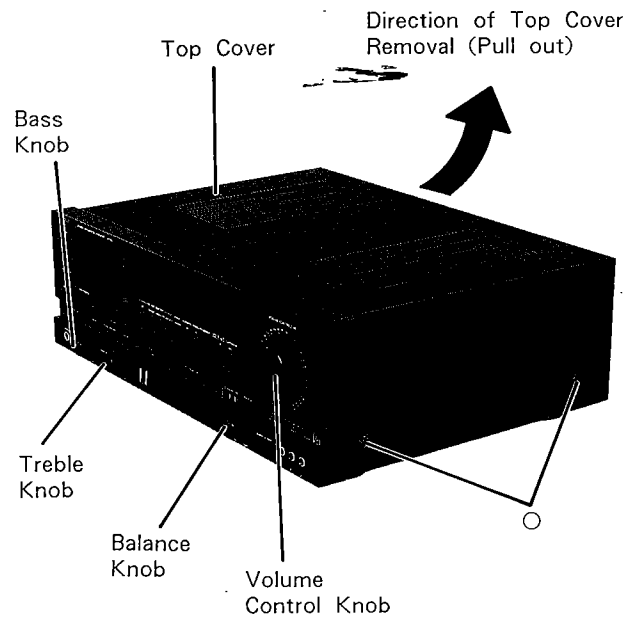

Figure 3
- (1) Remove six screws marked "○" as shown in Figures 3 and 4.
- (2) Pull out the top cover in the direction of the arrow as shown in Figure 3.
- (1) Remove the volume control knob as shown in Figure 3.
- (1) After removal of The Front Panel, remove three control knobs (bass, treble, balance), remove two hooks (A), and remove six screws marked "※" as shown in Figures 3, 4 and 6.
- (2) Disconnect all wires from the Front Escutcheon.
- (3) The Front Escutcheon with Function LED, Tone and Headphone P. C. Boards can be removed completely.